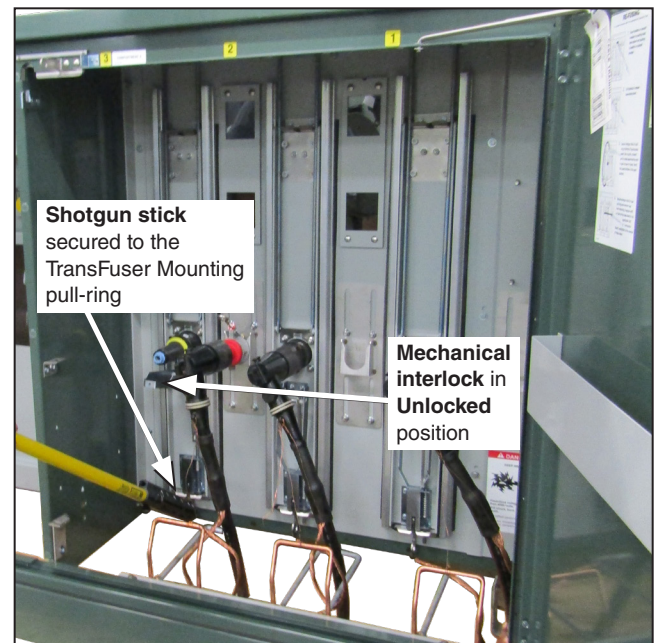

Figure 16. Unlatching (or latching) a TransFuser Mounting in the Closed position.
- STEP 4.** Secure the shotgun stick to the pull-ring at the lower end of the TransFuser Mounting. Be sure not to ratchet the shotgun stick all the way up when securing the pull-ring as it may hinder the movement of the TransFuser Mounting. See Figure 16. In one motion, using an outward pull, rotate the TransFuser Mounting end-over-end to expose the fuse.